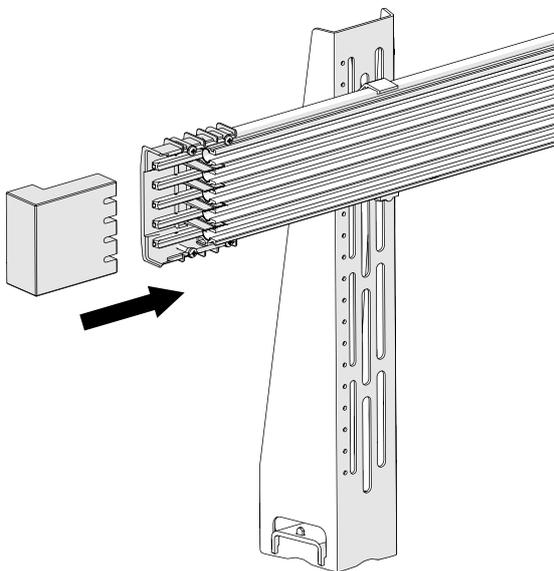
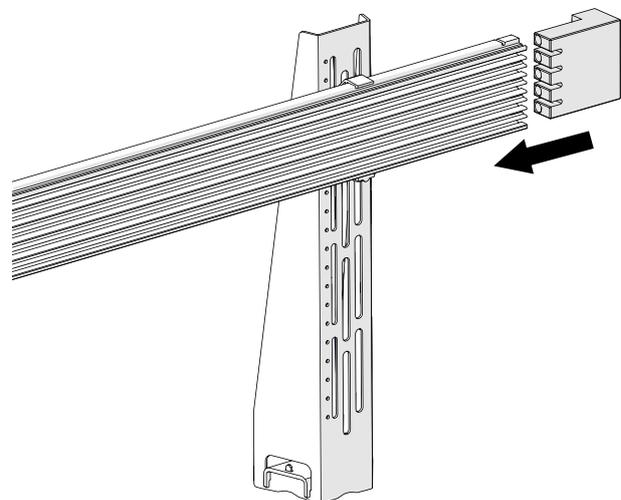
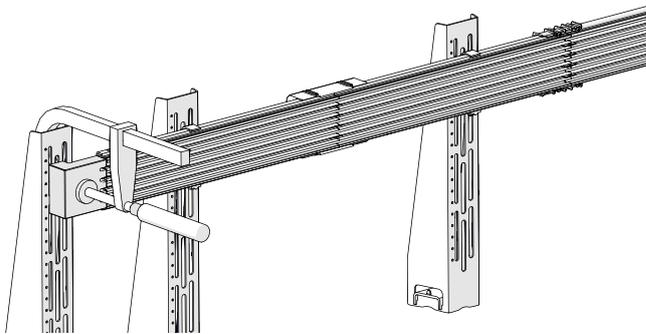

Fig. 16: Slide the mounting block onto the connector pins
Fig. 17: Use mounting block at the other rail end
Fig. 18: Mounting block (Order Number: 08-V015-0492-00x) fasten with a screw clamp
**Always use the mounting block (08-V015-0492-00x) and a rubber hammer when assembling (see Fig. 16, Fig. 17 and Fig. 18)!**
- Install the mounting block (Order Number: 08-V015-0492-00x) in front of the conductor rail with a screw clamp (see Fig. 18).
1. Push the connector side manually over the open rail end until it stops (see Fig. 16).
→ Remove mounting block (see Fig. 18).